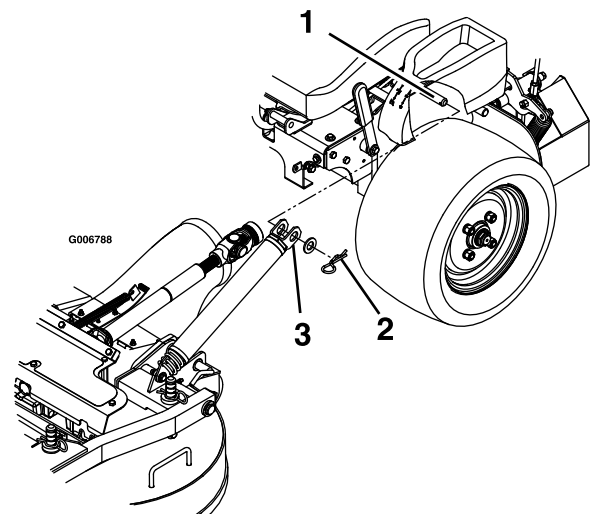

Figure 75
3. Remove the hairpin cotters and washers at the top of the deck-lift-assist spring on each side of the machine (Figure 75).
9. Install the springs onto the spring anchor pins under the left and right consoles and secure it with a washer and hairpin cotter (Figure 75).